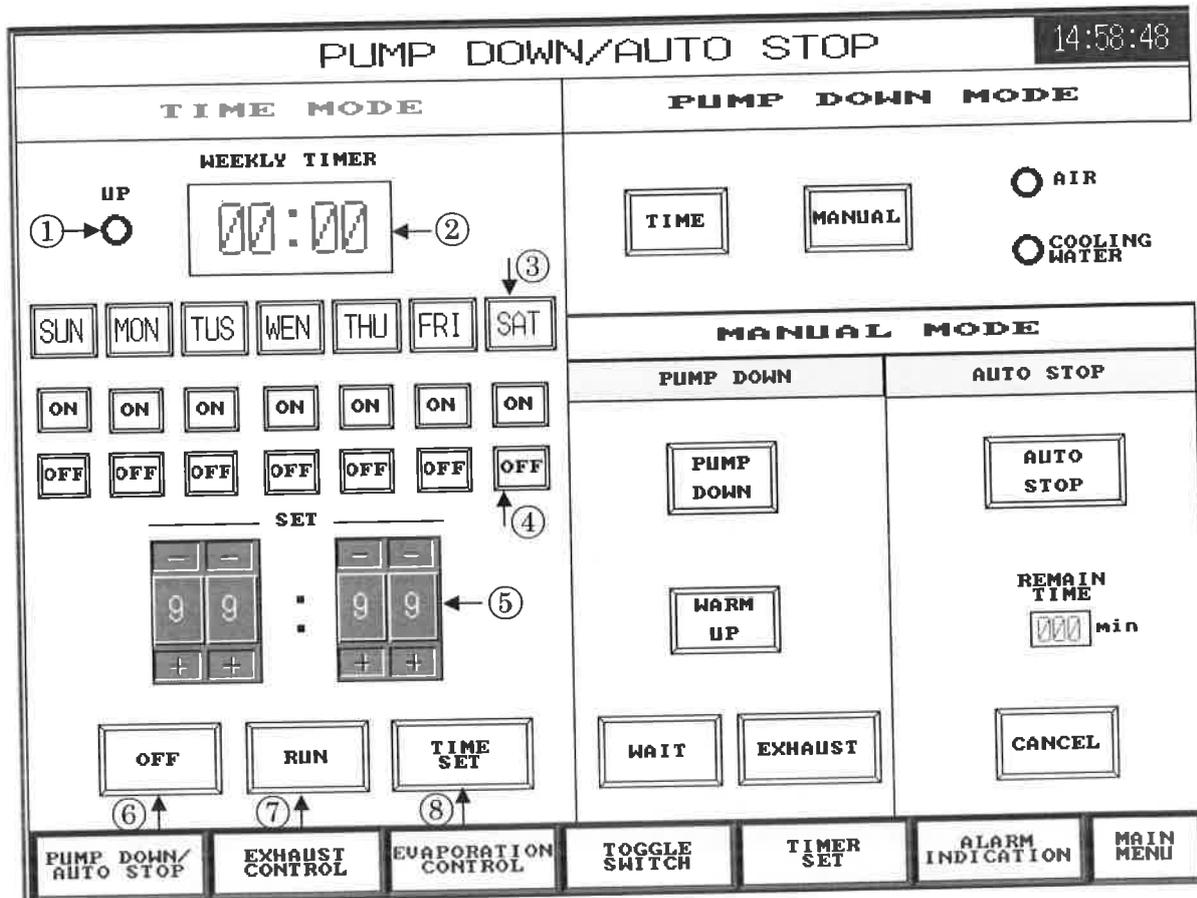

Figure 18. WEEKLY TIMER
Step 1: Set the start time switch (Figure 18-⑤).
Step 1: Turn “ON” the days of the week you want to start the pump. Turn OFF the days of the week you don’t want to start the pump. (Figure 18-④)
Step 1: Press the “TIME SET” button in operation mode (Figure 18-⑧)
Step 2: Set the start time switch (Figure 18-⑤) and set the current time.
Step 3: Press the “RUN” button in operation mode (Figure 18-⑦) or the OFF button in operation mode (Figure 18-⑥). When either button is pressed, the time is changed.
Step 2: Press the “RUN” button (weekly timer) (Figure 18-⑦). The weekly timer operation mode is changed to RUN.